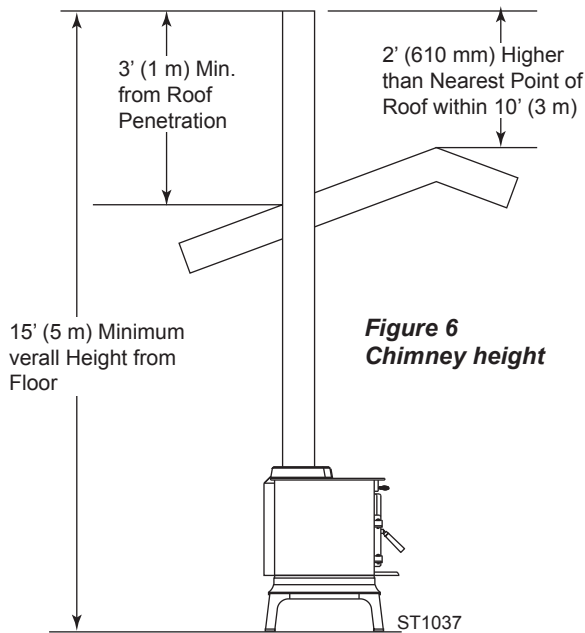

Figure 6
1. This appliance requires a masonry or pre-manufactured chimney listed to ULC S629 (Canada) and UL 103HT (US) sized correctly.
5. The minimum overall height of your chimney should be 15 feet (5 m) from the floor. (Fig. 6)